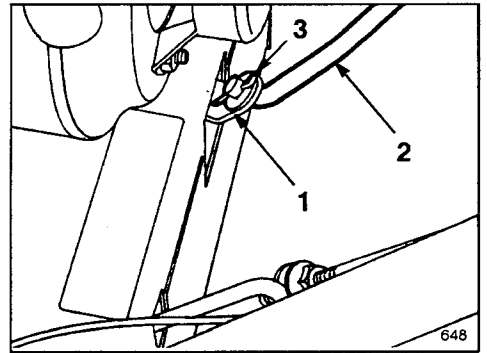
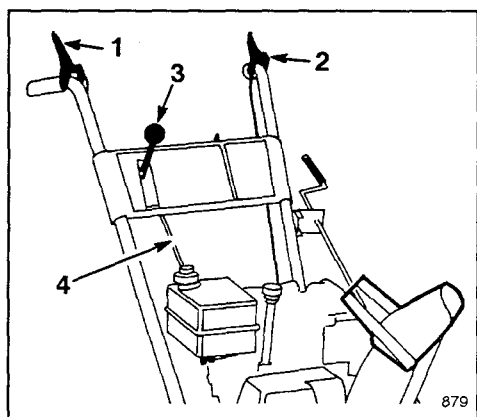

Figure 4
Figure 6
1. Pull speed selector arm (Fig. 4) to the fully "out" position and move speed selector (Fig. 6) on control pan-
2. Install speed selector rod into selector arm, add one flat washer on the selector rod and secure with cotter pin (Fig. 4).
4. Adjust the two flange nuts up or down on the traction control rod until the distance between the top of the handgrip and the bottom of the traction control lever (Figs. 6 and 7) is approximately $43\frac{3}{8}$ inches. **This is a preliminary setting only.** Tighten the two flange nuts finger tight.
5. Move speed selector (Fig. 6) into third gear.
3. Check the distance between the top of the handgrip and the bottom of the auger control lever (Figs. 6 & 9). Distance should be approximately four inches. **This is a preliminary setting only.**